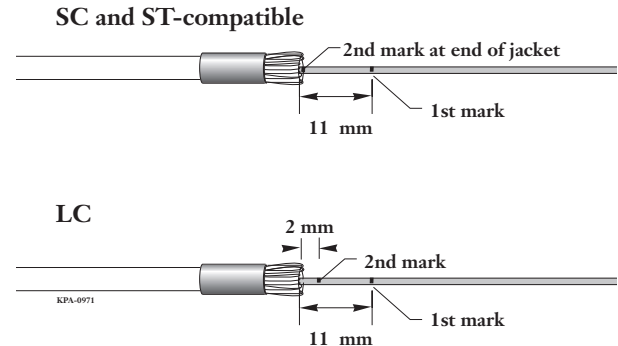

Figure 29 — Mark Buffer Coating
- For SC and ST-compatible connectors, mark the 900 micron buffer 11 mm from the end of the cable jacket and at the edge of the cable jacket (Figure 29).